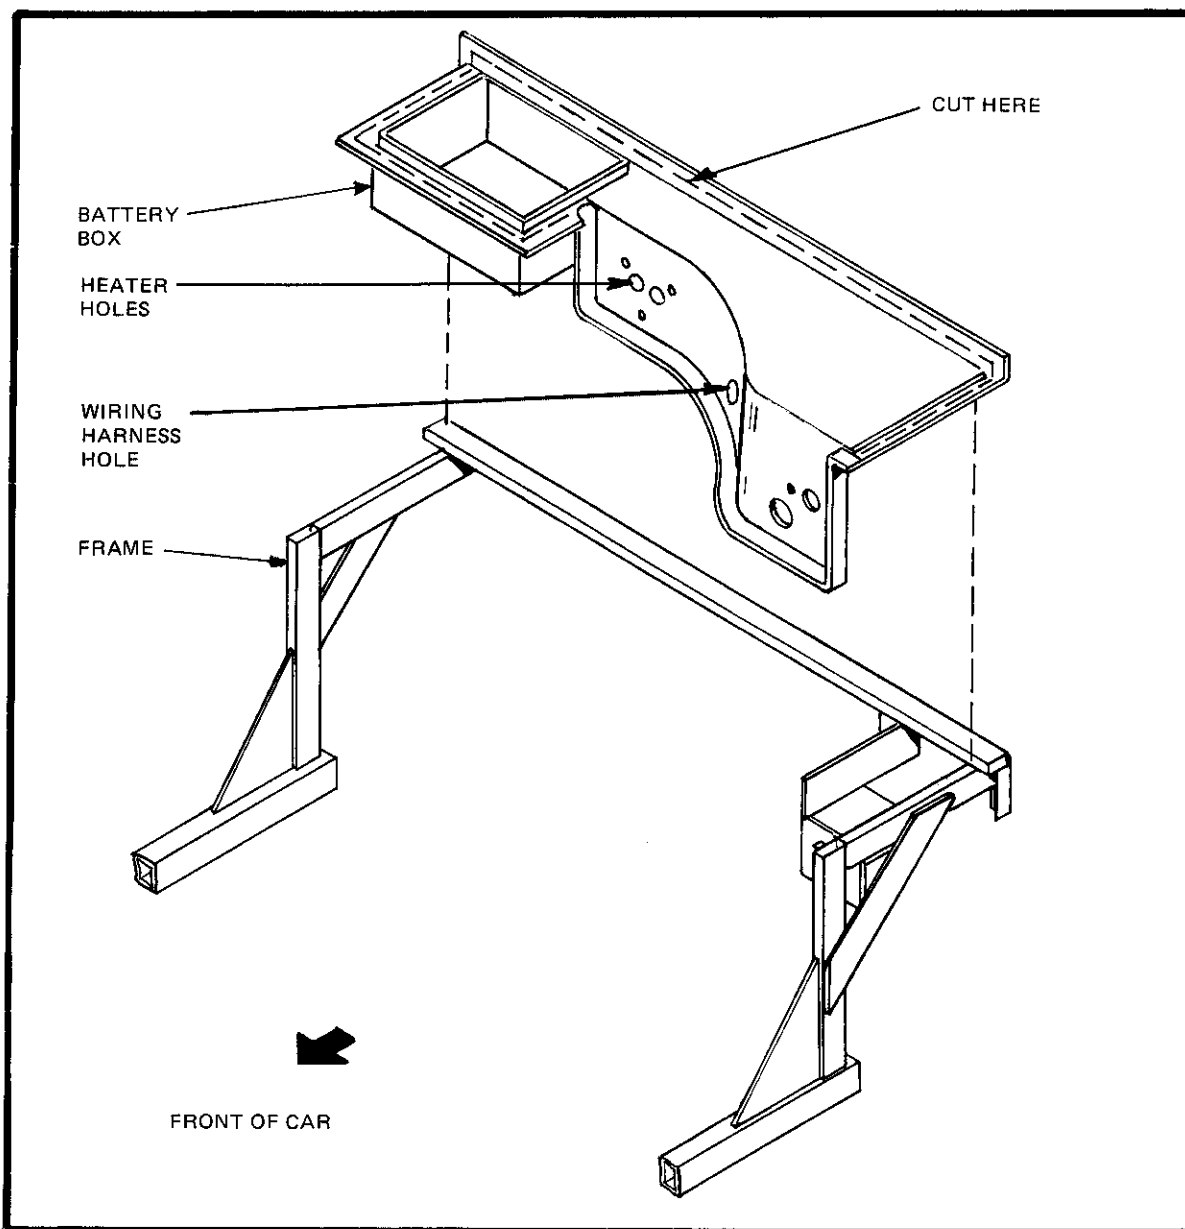

Figure 18
- ☐ Drill 2 holes, 7/32", through the battery box and into the frame. Secure with 1/4 x 3/4" hex washer head self-tapping screws. (Figure 18)